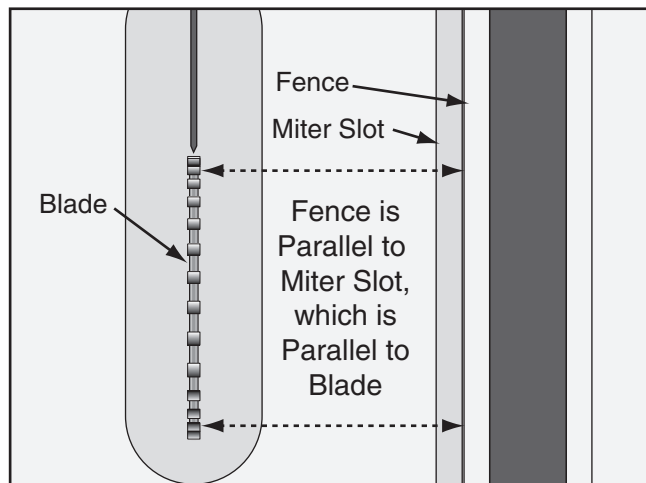

Figure 131. Checking fence parallelism with blade.
2. Slide the fence up against the right hand edge of the miter slot, lock it in place, then raise the blade above the insert. Examine how the fence lines up with the miter slot and the blade, as shown in **Figure 131**.
—If the fence/miter slot are parallel with the blade, as shown in **Figure 131**, no further adjustments need to be made.
5. Rotate the blade 180° and recheck the distance between the fence and the blade tooth you marked in **Step 4** to ensure they are parallel (see **Figure 131** on **Page 76**).